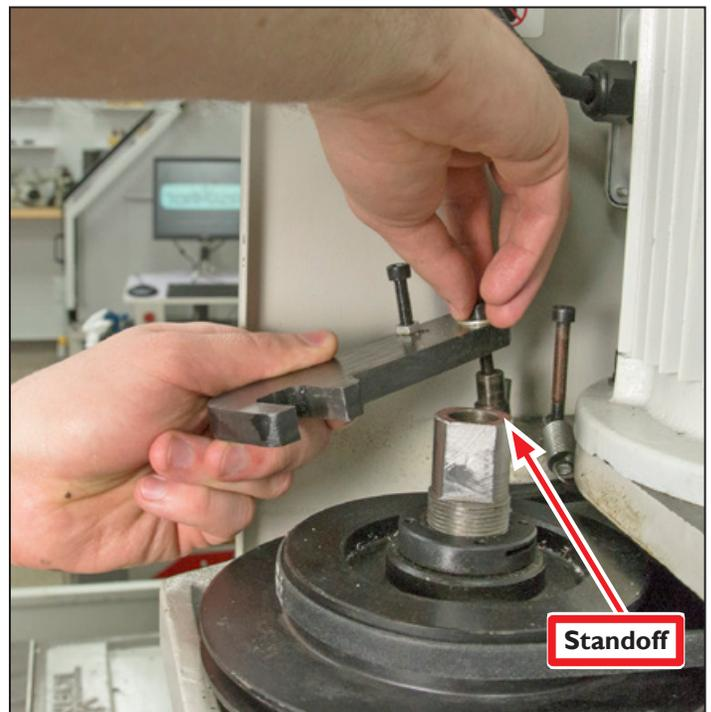

Figure 8
12. Using an M5 hex wrench, remove one socket head cap screw attaching Spindle Lock and Standoff to mill (see **Figure 8**); set aside for future use.